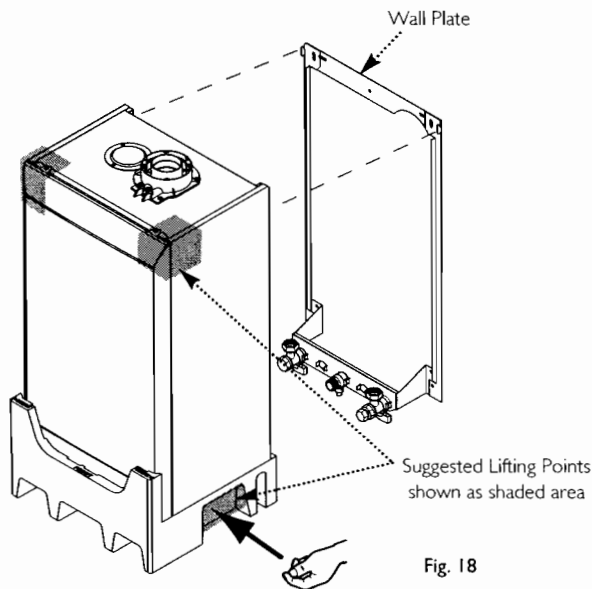

Fig. 18
1. Lift the boiler using the lower polystyrene cap. The boiler should be lifted by TWO PEOPLE. Engage the slots at the top rear of the boiler on the wall plate (Fig. 18) (see **Safe Manual Handling** page 5).